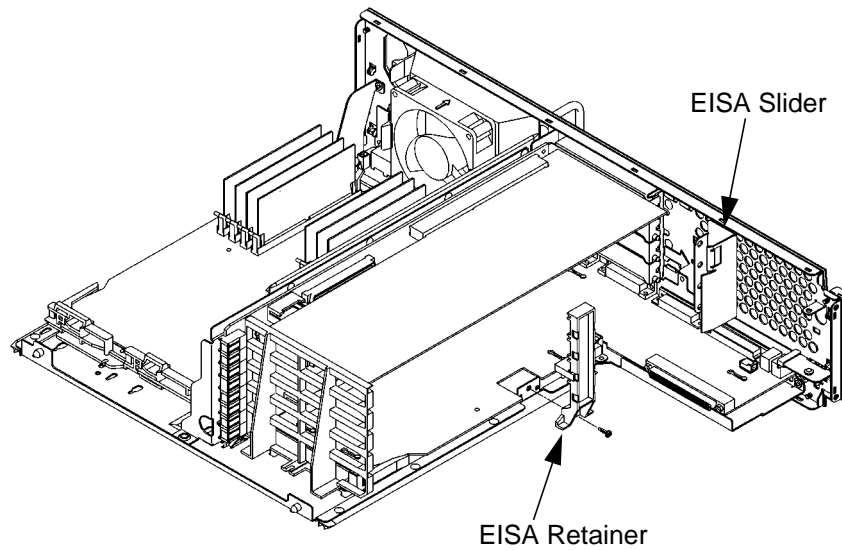

Figure 46 **Removing the EISA Slider and Retainer**
- 3** Remove the screw from the EISA retainer and remove it, as shown in Figure 46.